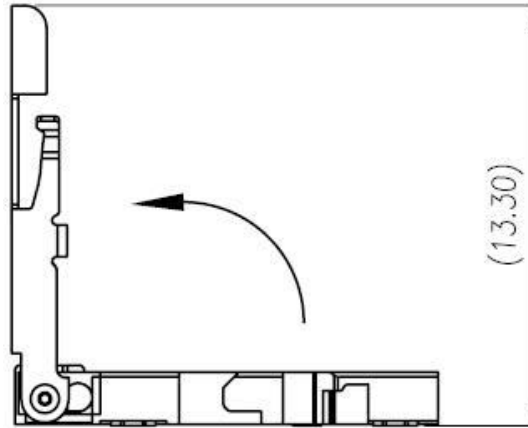

Figure 2-4
1. Find the Micro SD card slot and open the Micro SD card slot according to the direction shown in Figure 2-4.